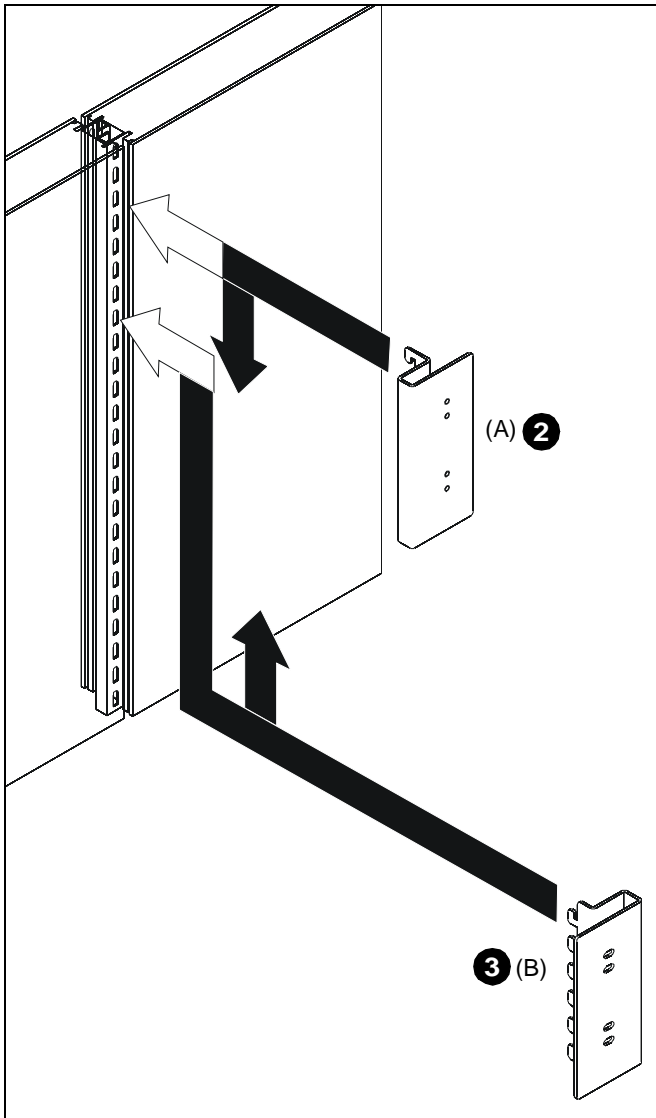

Figure 1
2. Orient inner wall bracket (A) and install six tabs into six slots in wall support. (See Figure 1)
3. Orient outer wall bracket (B) and install six tabs into six slots in wall support. (See Figure 1)